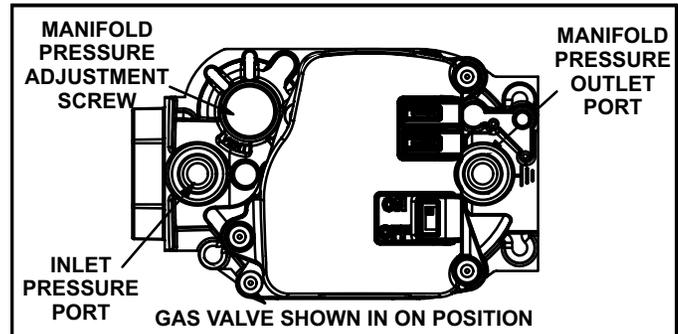

FIGURE 13
- 6 - Move gas valve switch to **OFF position**. Do not force. See figure 13.
- 8 - Move gas valve switch to **ON position**. Do not force. See figure 13.
- 4 - Move gas valve switch to **OFF position**. Do not force. See figure 13.